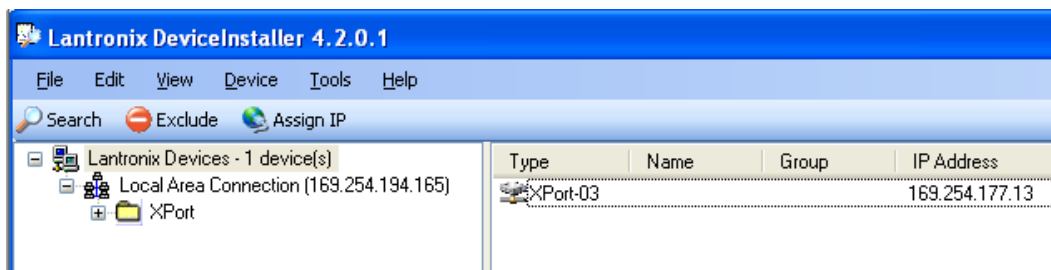

Figure 13 Device Installer XPort-03
- When initial search has completed, access the XPort-03 device listed on the right-hand pane (Figure 13) by double-clicking on it. This will bring up its details.